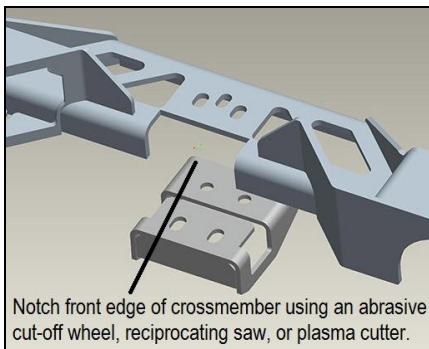

Figure 1
2. Cut a notch as wide as the 12628HKR bracket into the front of the 12625HKR crossmember; place the notch in the center of the crossmember and cut it back 1-1/8" from the face of the crossbeam front flange (**Figure 1**).